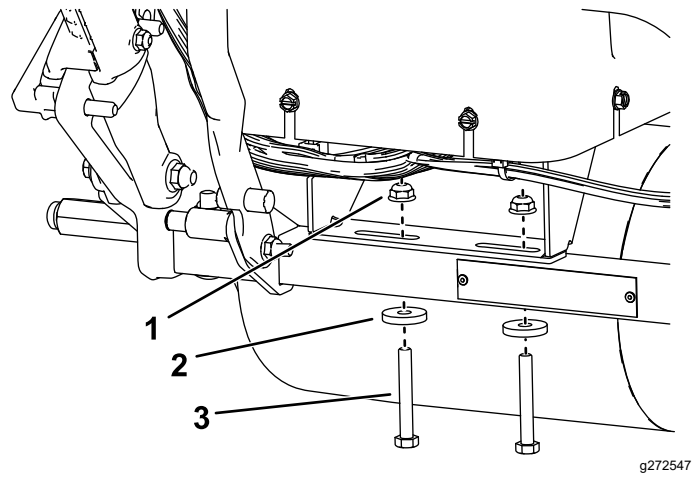

Figure 11
2. Install the rear platform assembly mount to the frame as shown in Figure 11.